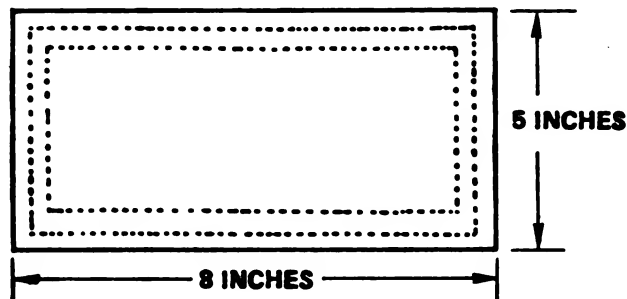

Figure 2-3A. Stitching Pattern
- d. The finished dimensions of these added pieces shall be 5 inches X 8 inches. See Figure 2-3A.